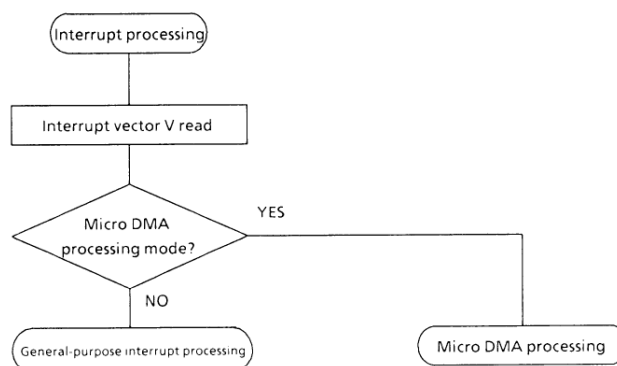

Figure 3.3 (1). Interrupt Response Flow Chart
The interrupt response flow chart is shown in Figure 3.3 (1).